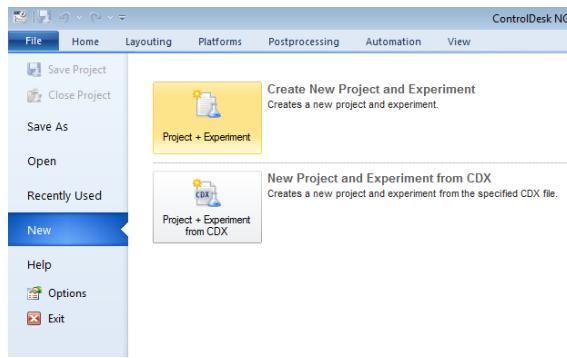

Figure 43: Creation of a new project in ControlDesk
1. Open ControlDesk 5.3. The first thing to do is to create a new project. This is done in the 'File' tab, in the option 'New', and selecting 'Create New Project and Experiment', as seen in figure 43.